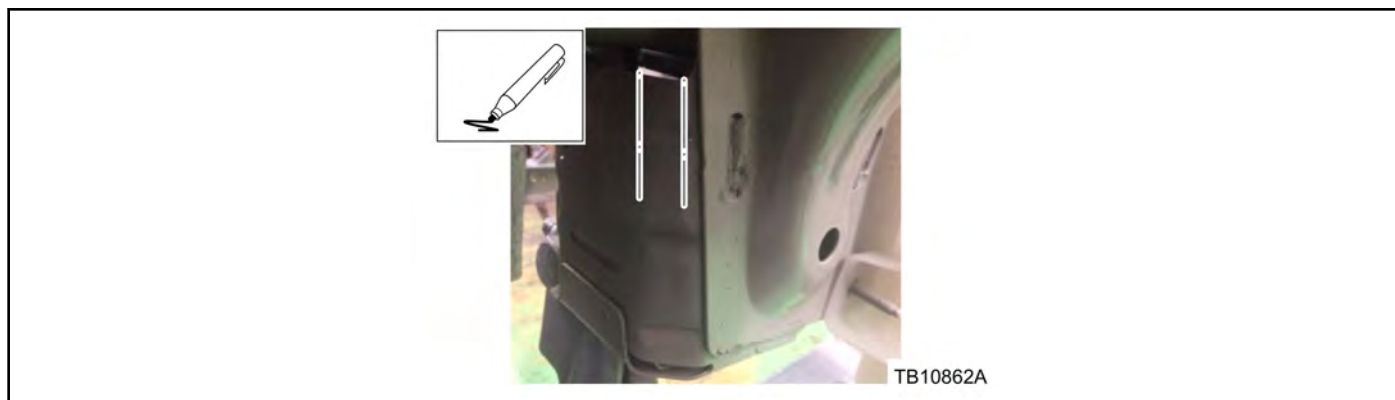

Figure 1 - Article 16-0021
5. Locate the front subframe bolt mounting tower bracket on the right side frame member and mark 2 cut lines approximately 63 mm (2.50 in) long as shown. (Figure 1)